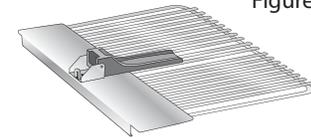

Figure 1.
Step 4: Take handle assembly PN# HA-508 and rotate the handle and bracket so they lie flat. Lay the bracket slot over the food rack loop on top of the food rack cover as shown (Figure 1).